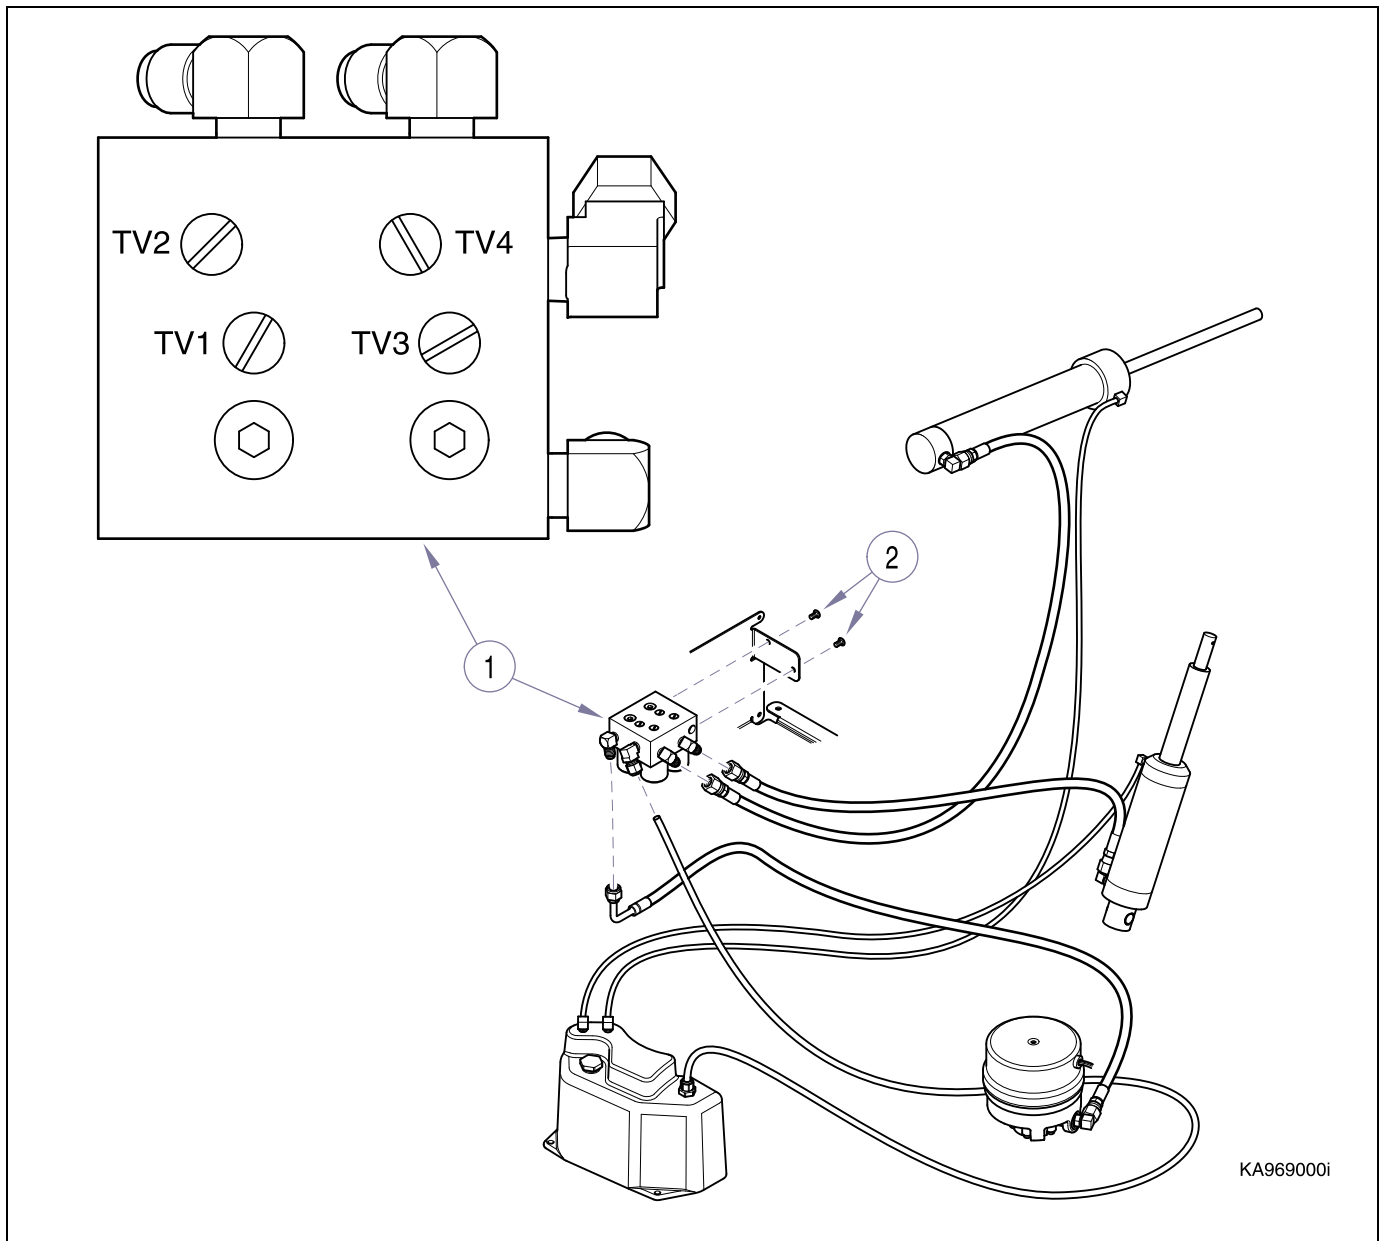

Figure 4-16. Hydraulic Solenoid Valve Assembly.
(8) Disconnect hydraulic lines from solenoid valve assembly (1, Fig. 4-16).
(9) Disconnect solenoid electrical leads from J17 and J18 plug connectors on PC board (refer to para 5.1, Schematics).
(10) Remove solenoid valve assembly (1) from hydraulic chassis (2), two screws.
- (1) Connect hydraulic hoses to the proper ports on the solenoid valve assembly (1, Fig. 4-16).
- (2) Secure solenoid valve assembly (1) to hydraulic chassis (2), two screws.
There are four Throttle Valves on the Solenoid Valve Assembly (1, Fig. 4-16) for adjusting travel time, BASE UP (TV1), BASE DOWN (TV2), BACK UP (TV3), BACK DOWN (TV4)